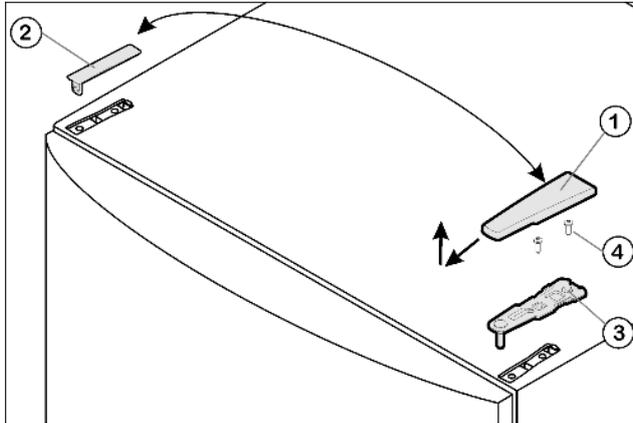

Fig. 4
- ▶ Pull off the cover Fig. 4 (1) forwards and upwards.
- ▶ Lift off the cover Fig. 4 (2).
- ▶ Unscrew the upper turn hinge Fig. 4 (3) (2 Torx 25) Fig. 4 (4) and raise it for removal.
- ▶ Insert the upper turn hinge *Fig. 4 (3)* in the door on the new hinge side.
- ▶ Screw down the upper turn hinge (2 Torx 25) *Fig. 4 (4)*. Possibly make preliminary holes with a bradawl or use a cordless screwdriver.
- ▶ Apply the cover *Fig. 4 (1)* and cover *Fig. 4 (2)* to the opposite side from the outside and snap them into place.